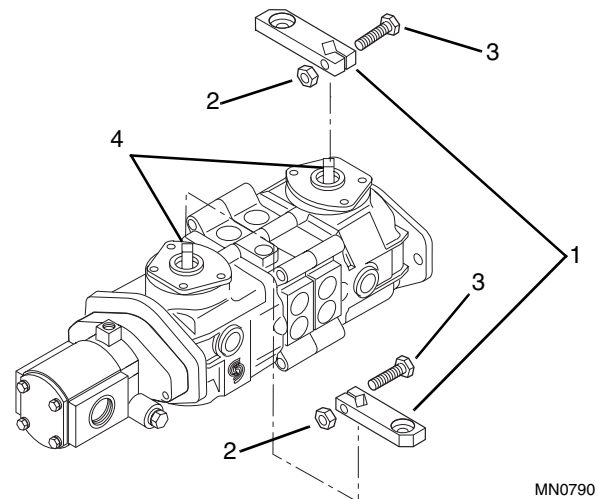

Figure 5-13 Pump Control Levers
14. Remove the transmission levers (Fig. 5-13, 1) from both control pumps by removing the locknuts (2) and capscrews (3). Slide the levers off the pump shafts (4).
7. Install each transmission lever (Fig. 5-13, 1) onto the control pump shafts (4) and fasten with the cap screws (3) and new locknuts (2). Secure tightly.